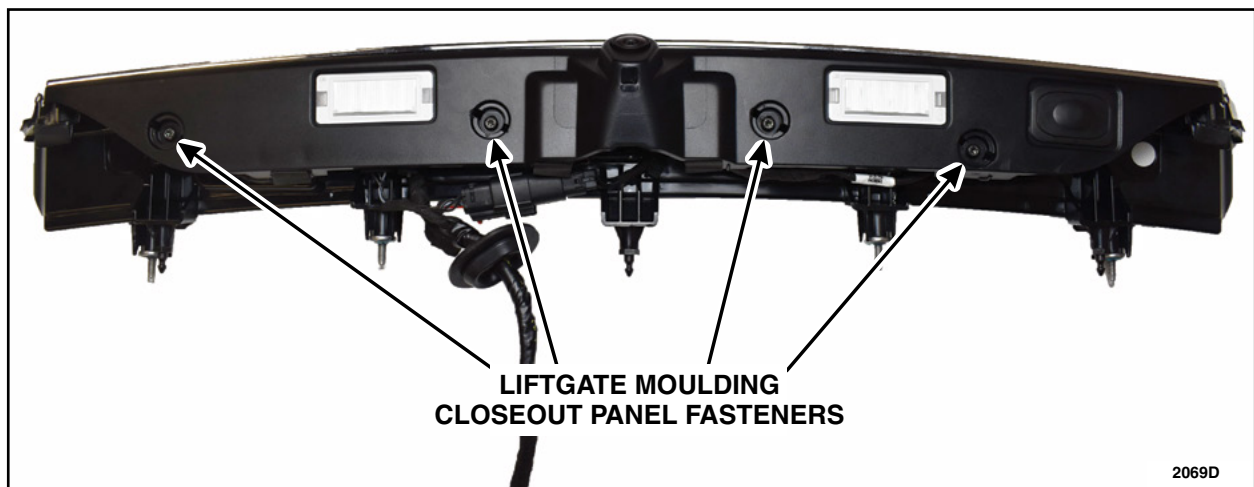

FIGURE 9
4. Remove the four (4) liftgate moulding closeout panel fasteners. See Figure 9.
11. Install the four (4) closeout panel to liftgate moulding assembly fasteners. See Figure 9.